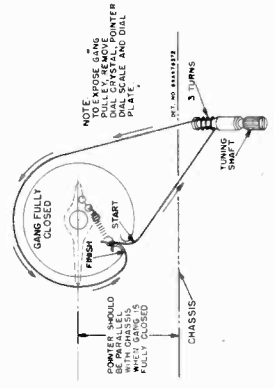

FIGURE 2. STRIKE DRIVE
* Connect output of signal generator to a 5" diameter 3 turn loop. See Figure 2. With volume control on full, bring loop close enough to receiver loop until an output of 50 milliwatts is obtained (.38V on output meter). The distance between loops should never be less than 12". Vary distance between generator and receiver loops or adjust generator output to maintain .38V during alignment.